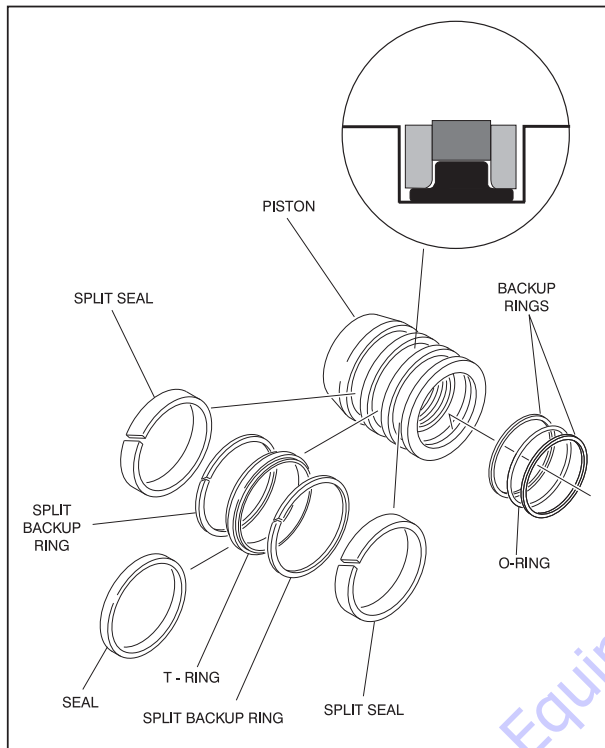

Figure 2-11. Piston Seal Kit Installation
NOTE: The backup rings for the solid seal have a radius on one side. This side faces the solid seal. (See magnified insert in Figure 2-11.) The split of seals and backup rings are to be positioned so as not to be in alignment with each other.
- Place new guide locks and seals in the applicable outside diameter grooves of the cylinder piston. (See Figure 2-11., Piston Seal Kit Installation)